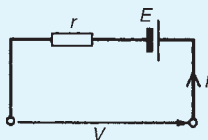

Figure 13.90
3. For the circuit shown in Fig. 13.90, the internal resistance r is given by: